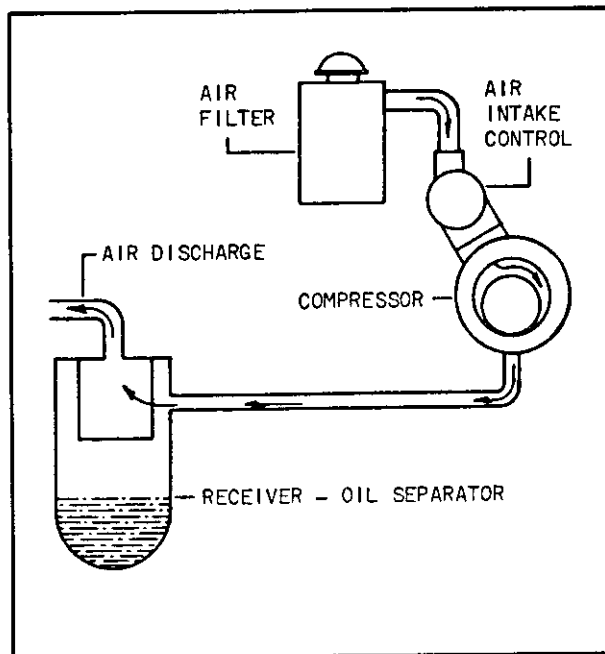

Figure 1-1. Air cycle schematic diagram
a. AIR CYCLE. (See figure 1-1.) Free air is drawn into the stator through the air cleaner and intake control. The air enters through large ports in the end cover at a point where the vanes are well out of the rotor slots, thus filling the space segments between the vanes with air. In rotation, the vanes are moved radially inward in their slots by the bore wall. The volume between the vanes decreases, thus compressing the trapped air. At the rated point of compression, the discharge ports are reached and the compressed air passes into the discharge chamber. Oil is injected during the above cycle to cool the air, seal all leakage and lubricate all rubbing parts. The discharge chamber is positioned at the bottom of the stator to favor natural oil drainage.